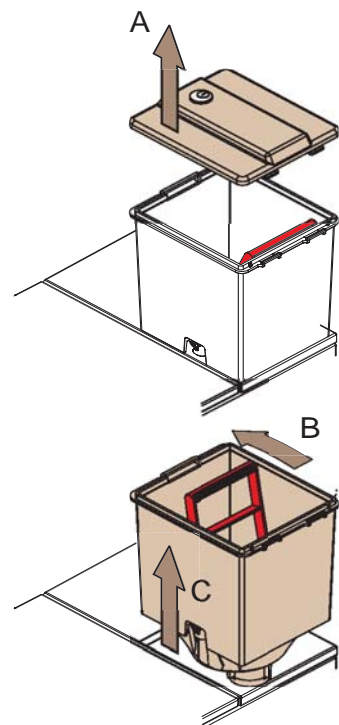

Figure 4-16
3. Open the bean hopper and unlock the container with the lever (see figure 4-16).